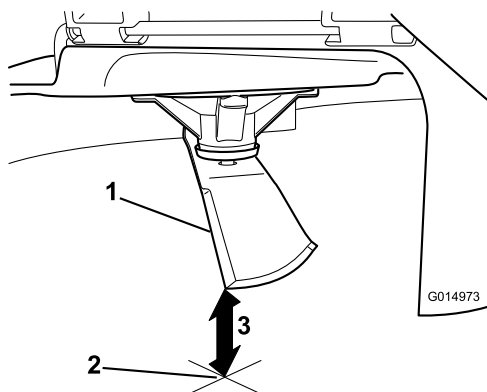

Figure 106
3. Measure from the tip of the blade to the flat surface (Figure 106).